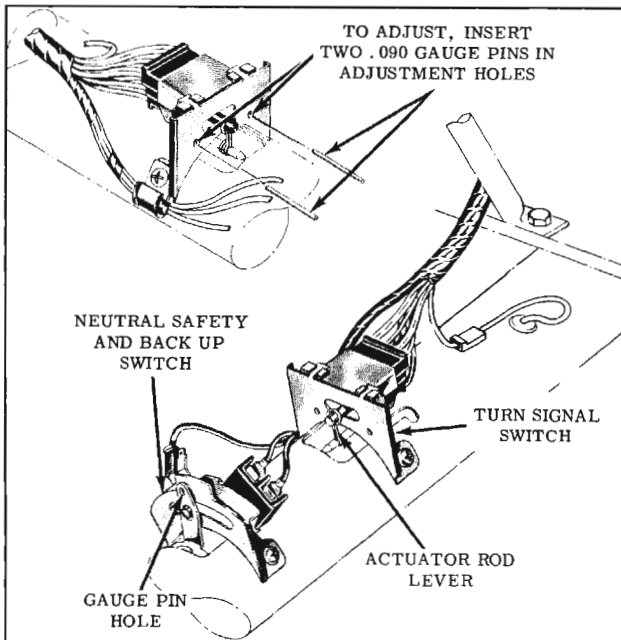

Fig. 13-121 Back-Up Lamp Switch
2. Position the switch on the mast jacket so that a .090" pin can be inserted through the hole in the switch arm and into the hole in the face of the switch. (Fig. 13-121)